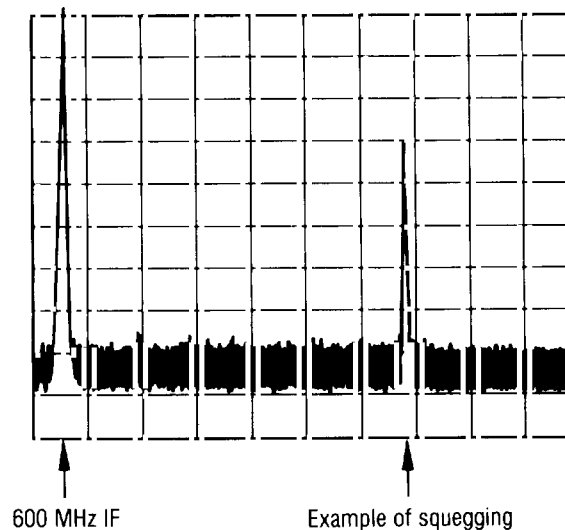

Figure 5-44. Unleveled Squegging Displayed on Spectrum Analyzer
74. Using the [**▲**] key on both the DUT and the LO, step through Band 2, observing the Spectrum Analyzer display at each step. There may be responses due to mixing products. These will appear as low level signals. A squegging response will appear as a higher amplitude signal as shown in Figure 5-44. If squegging occurs at DUT frequencies below 10 GHz, adjust A24R3 (X2A) slightly CCW to eliminate squegging. If squegging occurs at frequencies above 10 GHz, adjust A24R4 (X2B) to eliminate the squegging. Note, if the control is adjusted and there is no effect on the response, the response is probably a mixing product.